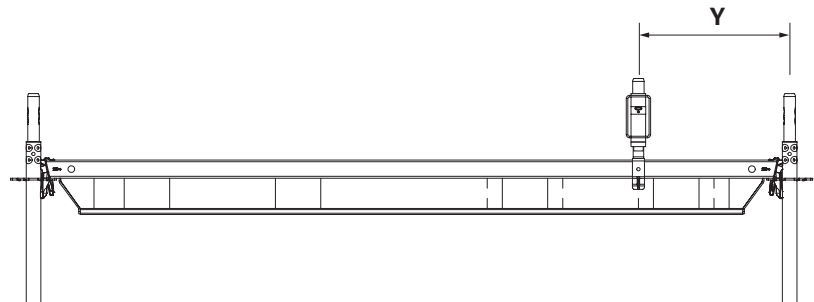

Fig. A8.03
- The distance **Y** is specified for all UHV ledger lengths together. For shorter ledger lengths, a greater distance **Y** may be possible for the respective UHV ledgers, see the PERI UP Design Tables in this regard. (Fig. A8.03)